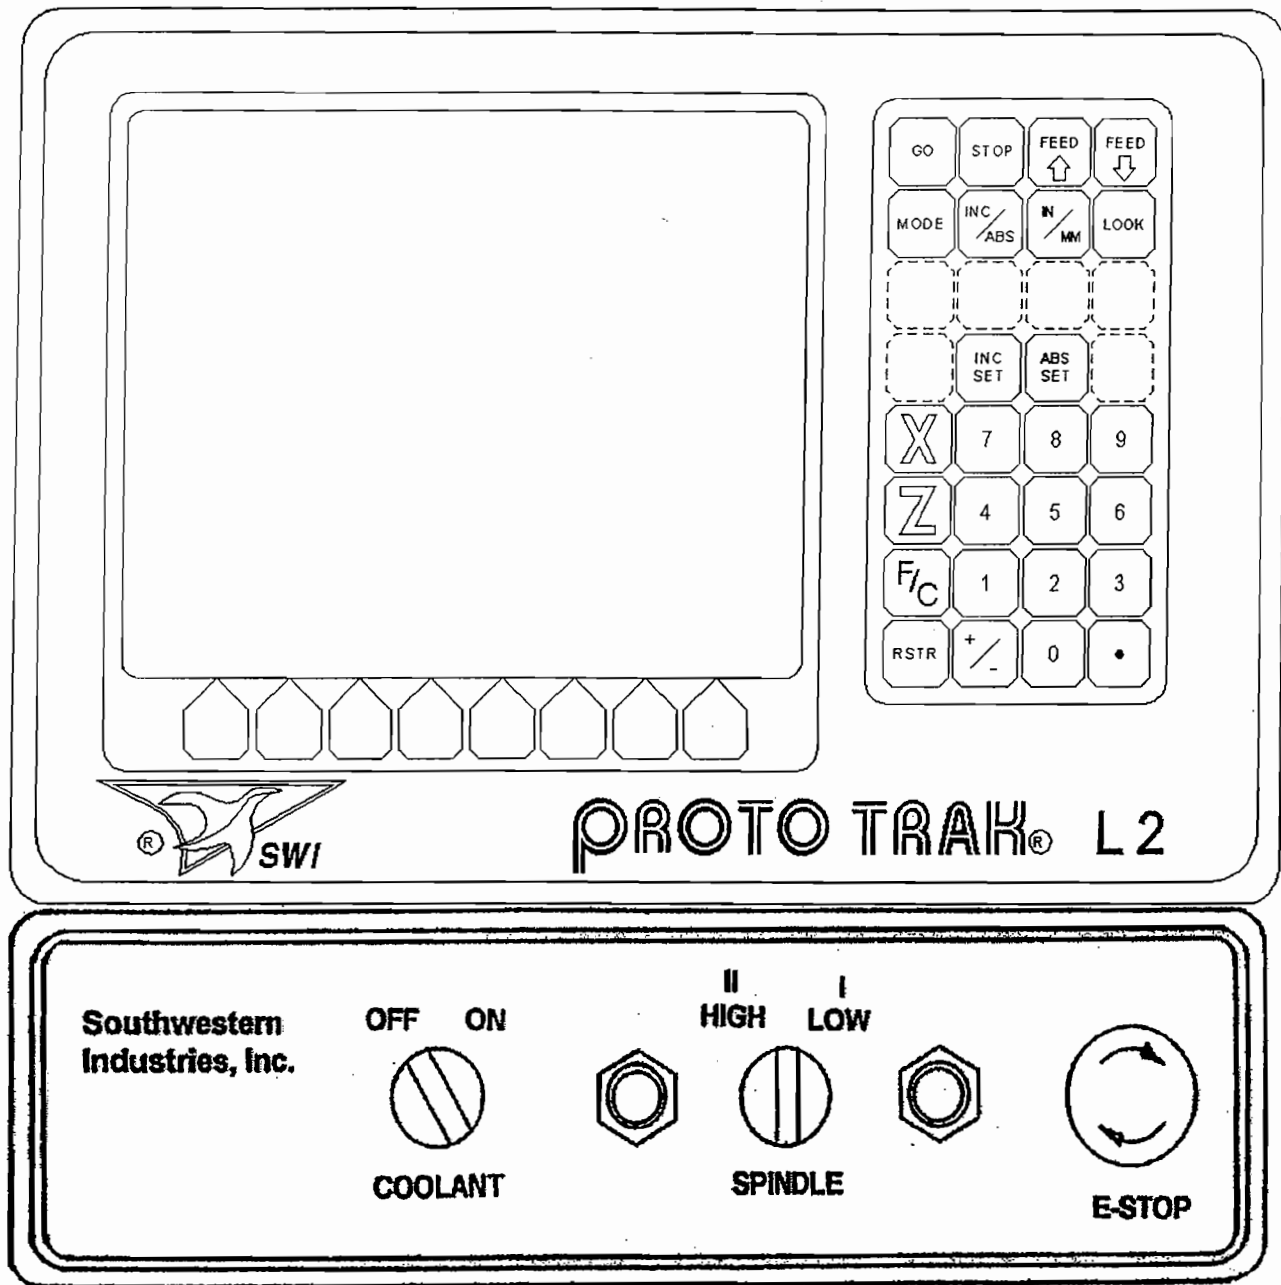

Figure 1
3.1 L2 Keyboard (Figure 1)
3.3 L2 CRT Screen (Figure 1)
3.5 Sport Lathe Switch Box (Figure 1)